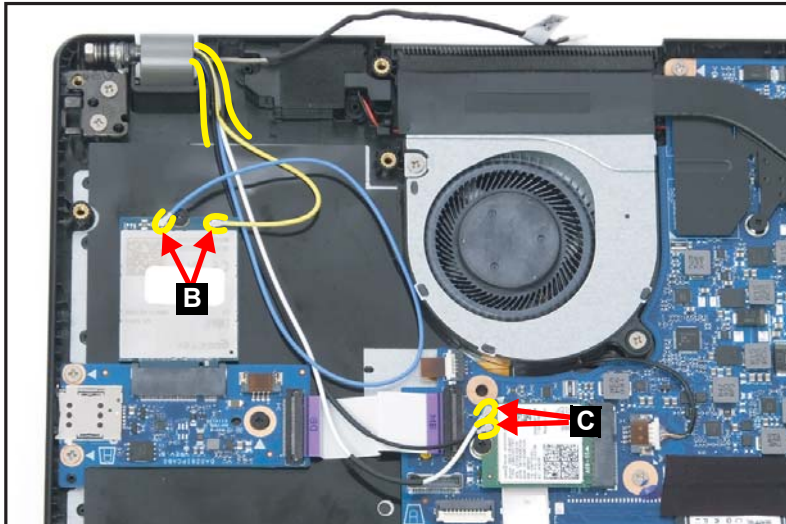

Figure 1-33. LCD Module Removal
4. Disconnect the LTE antennas cables (B) from the LTE module connectors (Figure 1-33).
5. Disconnect the WLAN antennas cables (C) from the WLAN module connectors (Figure 1-33).
6. Unroute the LTE and WLAN antennas cables from the guides on the top assembly (Figure 1-33).